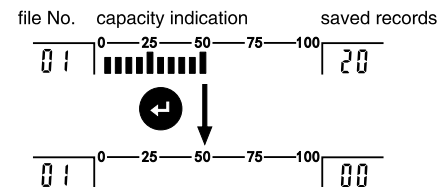

Figure 3-1-2 File deletion process
- The deletion process is dynamically displayed in the status area and right and left reading areas. (As figure 3-1-2)